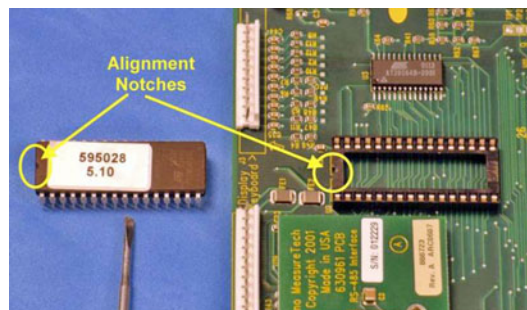

Figure 8. Alignment notches on the CPU PROM and PROM socket
- Insert the replacement PROM into the socket, being careful to align the notch in the socket with the notch in the PROM (Figure 8). Take care to not bend the pins of the PROM.